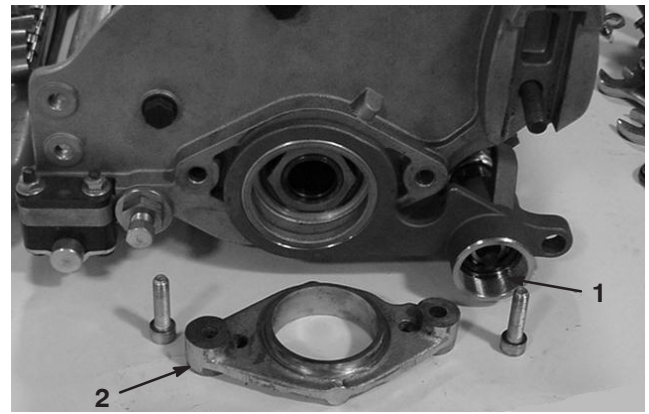

Figure 9
16. Apply grease to seal in drive assembly bearing support and to end of groomer shaft (Fig. 9).
17. Insert other end of groomer shaft into R.H. side plate bearing support (Fig. 9). No key is required in this end.
18. Insert motor mount onto side plate. Secure motor mount and side plate to right end of cutting unit with (2) socket head screws and nuts previously removed (Fig. 9). Make sure the side plate rotates freely.